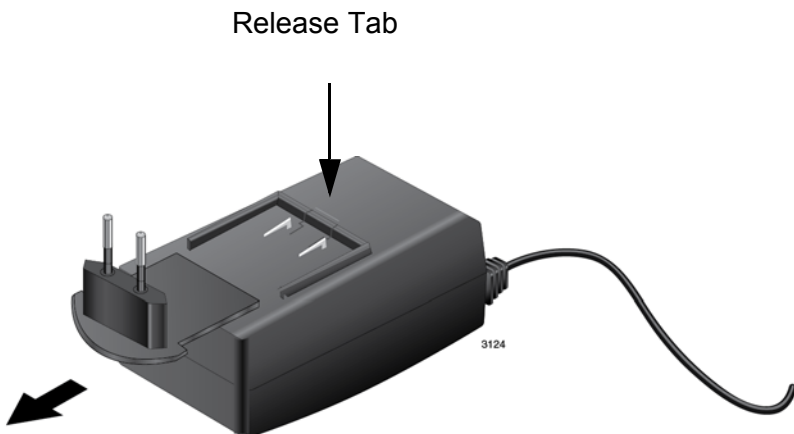

Figure 6. Removing an AC Plug from the AT-TQ0091 AC/DC Power Adapter
8. Check the AC plug on the AC/DC Power Adapter to see if it is the correct plug for your region. If it is not the correct plug, remove it by pushing down on the release tab and sliding it from the slot on the adapter. Refer to Figure 6.
10. Check the AC plug on the AT-TQ0091 AC/DC Power Adapter to see if it is the correct plug for your region. If it is not the correct plug, remove it by pushing down on the release tab and sliding it from the slot on the adapter. Refer to Figure 6 on page 31.